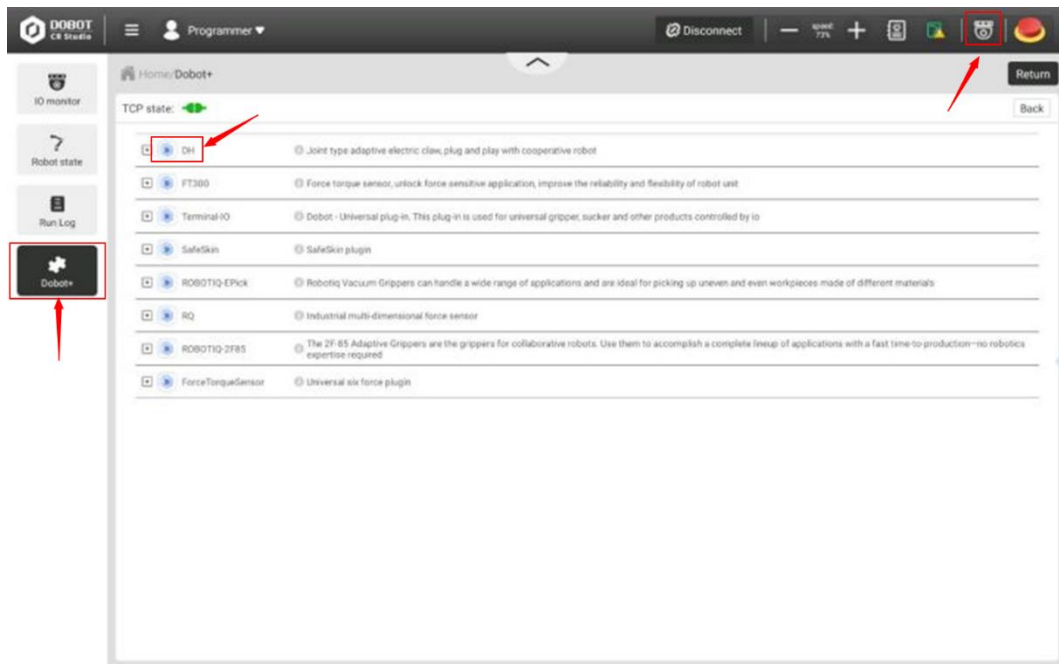

Figure 3.6 Install DH plug-in
- Step 1** Click **Monitor** or  to enter the monitor page. Select **Dobot+** in the left-side menu, as shown in Figure 3.6. Double click the **DH** plug-in to install it.